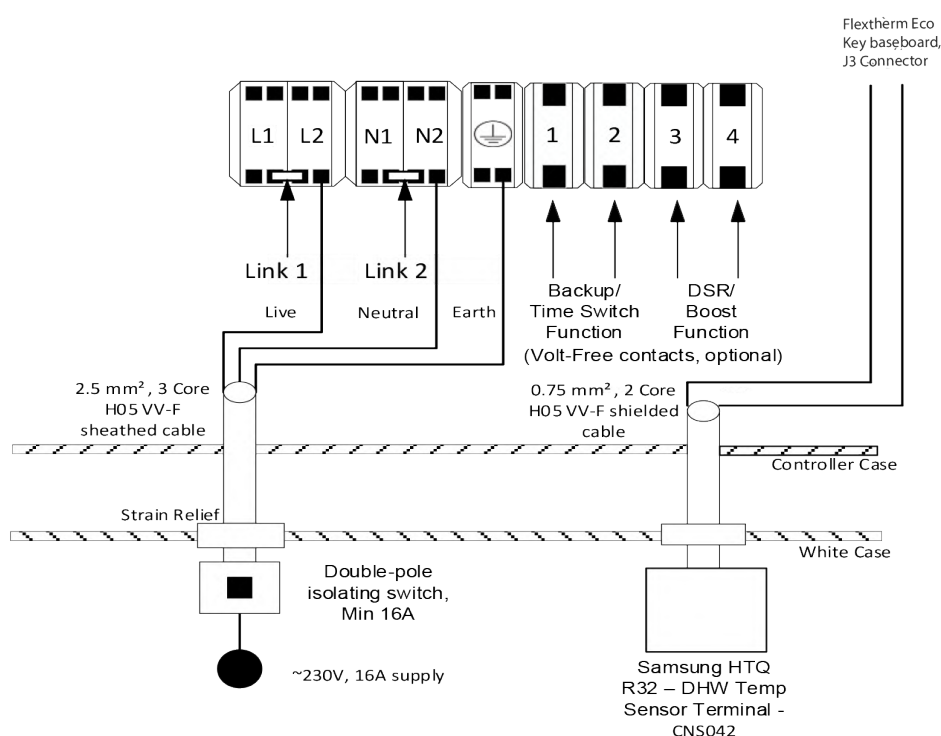

Figure 12: Flextherm Eco G2 D with Samsung HP-Key
- Flextherm Eco G2 D with the «Samsung HP-key» & «Samsung HP+PV-key» (Flextherm Eco G2 D manual - Section 6.4.2 for wiring instructions & Figures 12 & 13 below)
Using the Samsung Tank sensor part supplied with the heat pump, remove the sensor end by cutting off the copper cylinder, and strip the wire as required. The cable will act as a hot water heating tank sensor from the Flextherm Eco key baseboard - terminal J3 into the Heat Pump Interface controller PCB Terminal - (DHW Tank sensor - CNS042) terminal (please refer to HP installation manual). Please run the wire into the Heat Battery appliance via the appliance case cabling grommets and then into the control box housing through the hole available. Secure the cables in terminals J3 on the Flextherm Eco Board, please see Figures 12 & 13 for reference.